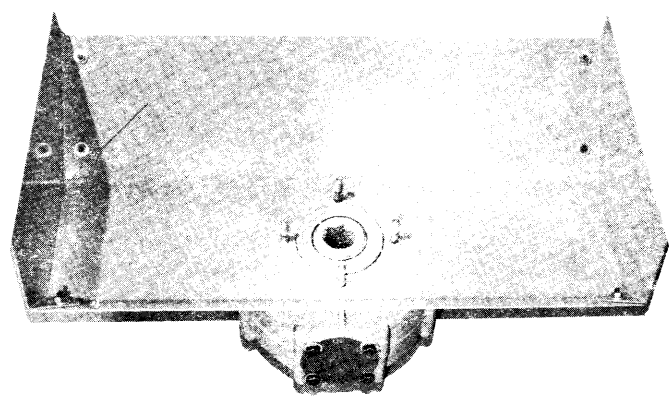

Figure 4
7. Install the dirt shield assembly on the housing as shown in Figure 4.